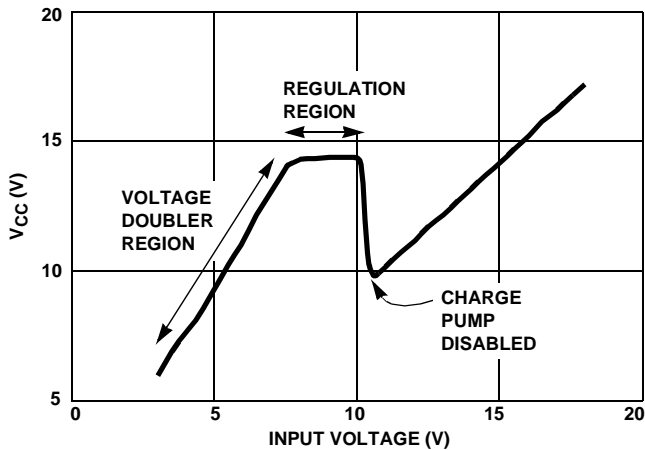
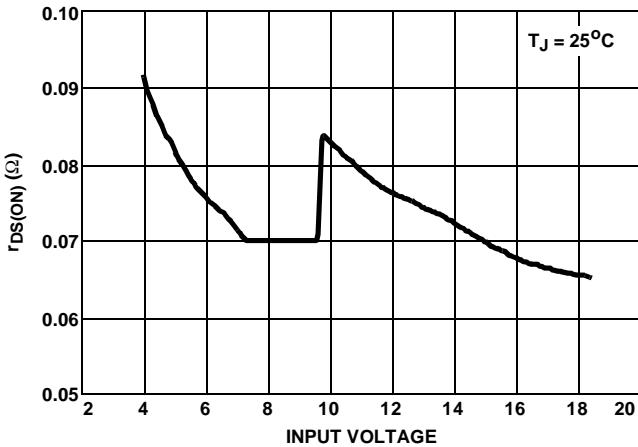
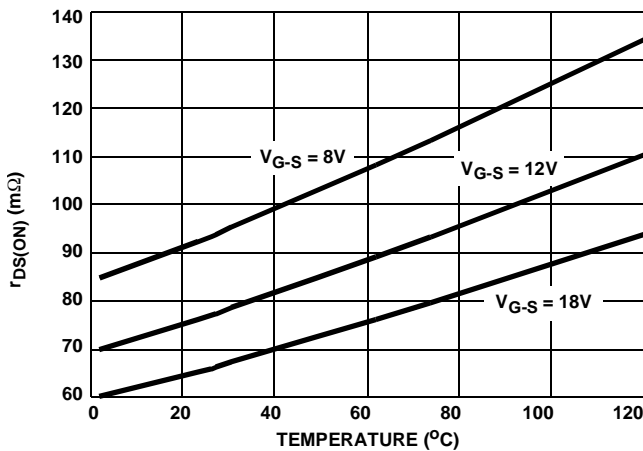

FIGURE 10. CHARGE PUMP REGULATOR INPUT VOLTAGE CHARACTERISTICS
FIGURE 14. $r_{DS(ON)}$ vs INPUT VOLTAGE
FIGURE 15. $r_{DS(ON)}$ vs JUNCTION TEMPERATURE
The charge pump regulator supplies control power (V_{CC}) to the internal functions of the HIP5020. The charge pump operates for input voltage levels below 9.8V and is disabled for input voltages above 9.8V. Figure 10 shows the charge pump output voltage (V_{CC}) as a function of the input voltage (V_{IN}). For input voltages below 9.8V nominally, the charge pump operates in two regions - as a voltage doubler and as a voltage regulator. The charge pump operates as a normal voltage doubler when V_{CC} is below approximately 14.8V. The charge pump limits V_{CC} to approximately 14.8V in the regulation region. For input voltages above 9.8V, the charge pump is disabled and V_{CC} follows the input voltage less a diode drop.
Conduction losses are a significant portion of the power dissipation in a DC-DC converter. The HIP5020 conduction losses are the product of the square of the average output current and the MOSFET on-resistance - $r_{DS(ON)}$. The $r_{DS(ON)}$ of the MOSFETs is a function of V_{CC} and junction temperature. V_{CC} changes with the input voltage as shown in Figure 10 above. Figure 14 shows the maximum $r_{DS(ON)}$ of both MOSFETs as a function of input voltage for a junction temperature of 25 $^{\circ}$ C. The junction temperature of the HIP5020 also effects $r_{DS(ON)}$. Figure 15 shows the $r_{DS(ON)}$ as a function of temperature for three gate voltage
1. Assume that the gate voltage is equal to V_{CC} . Find the gate voltage at 25°C from Figure 10.
2. Multiply this number by the $r_{DS(ON)}$ shown in Figure 15. Interpolate as necessary.